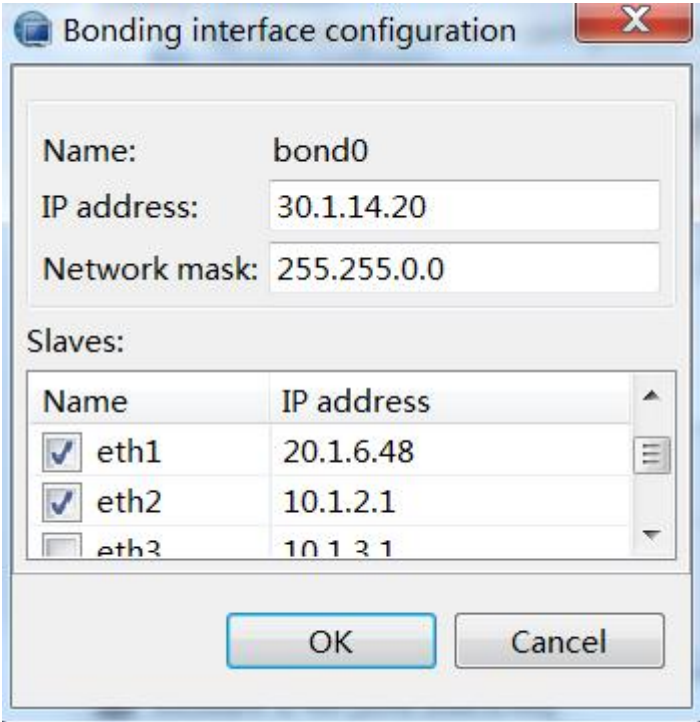

Figure 10-11 Selecting the network port for bonding 2
(4) Clicking **[OK]** button will show the configured bonding network port information, as shown in the Figure 10-11: